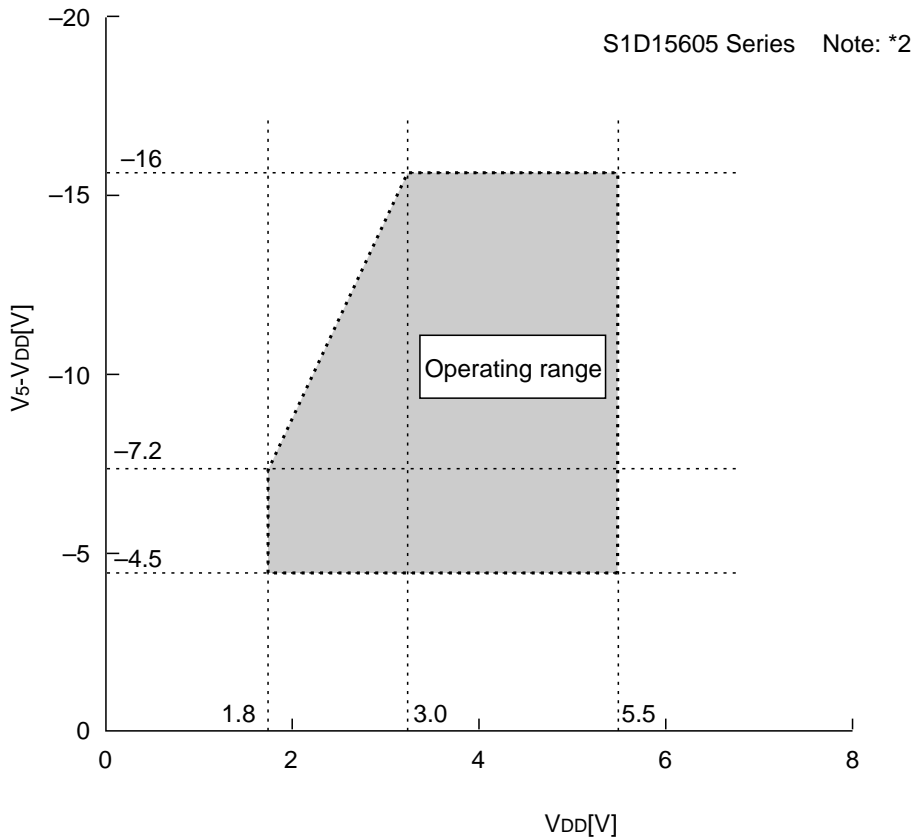

Figure 36
- \*2 The operating voltage range for the VDD system and the V5 system is as shown in Figure 36. This applies when the external power supply is being used.
- \*3 The A0, D0 to D5, D6 (SCL), D7 (SI),  $\overline{RD}$  (E),  $\overline{WR}$  (R/ $\overline{W}$ ),  $\overline{CS1}$ , CS2, CLS, CL, FR, M/S, C86, P/S,  $\overline{DOF}$ ,  $\overline{RES}$ , IRS, and  $\overline{HPM}$  terminals.
- \*6 Applies when the D0 to D5, D6 (SCL), D7 (SI), CL, FR, and  $\overline{DOF}$  terminals are in a high impedance state.
- \*7 These are the resistance values for when a 0.1 V voltage is applied between the output terminal SEGn or COMn and the various power supply terminals (V1, V2, V3, and V4). These are specified for the operating voltage (3) range.